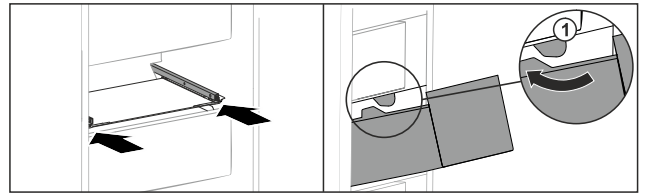

Fig. 151
- Guide drawer around the stoppers Fig. 151 (1).